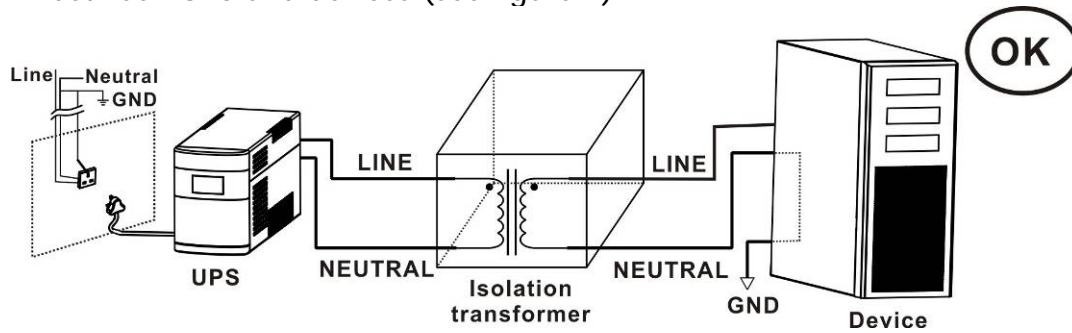

Figure 2
- ⚠ If neutral line and ground line are short circuited, please add isolation transformer between UPS and devices (see figure 2).